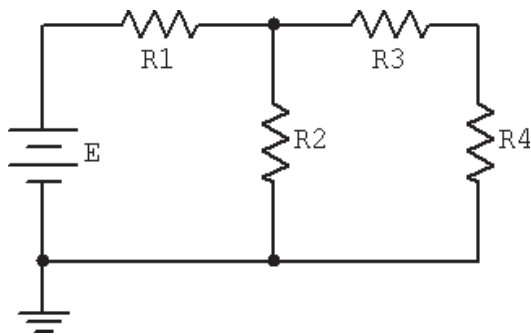
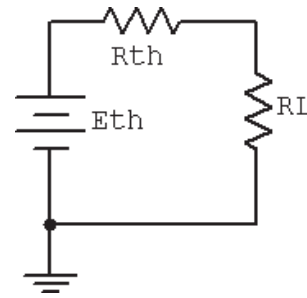

Figure 11.1
Figure 11.2
1. Consider the circuit of Figure 11.1 using  $E = 10$  volts,  $R1 = 3.3$  k,  $R2 = 6.8$  k,  $R3 = 4.7$  k and  $R4$  ( $R_{Load}$ ) = 8.2 k. This circuit may be analyzed using standard series-parallel techniques. Determine the voltage across the load,  $R4$ , and record it in Table 11.1. Repeat the process using 2.2 k for  $R4$ .
2. Build the circuit of Figure 11.1 using the values specified in step one, with  $R_{Load} = 8.2$  k. Measure the load voltage and record it in Table 11.1. Repeat this with a 2.2 k load resistance. Determine and record the deviations. Do not deconstruct the circuit.
3. Determine the theoretical Thévenin voltage of the circuit of Figure 11.1 by finding the open circuit output voltage. That is, replace the load with an open and calculate the voltage produced between the two open terminals. Record this voltage in Table 11.2.
7. In powered circuits, ohmmeters are not effective while power is applied. An alternate method relies on measuring the effect of the load resistance. Return the voltage source to the circuit, replacing the short from step six. For the load, insert either the decade box or the potentiometer. Adjust this device until the load voltage is half of the open circuit voltage measured in step five and record in Table 11.2 under “Method 2”. At this point, the load and the Thévenin resistance form a simple series loop as seen in Figure 11.2. This means that they “see” the same current. If the load exhibits one half of the Thévenin voltage then the other half must be dropped across the Thévenin resistance, in other words  $V_{RL} = V_{RTH}$ . Consequently, the resistances have the same voltage and current, and therefore must have the same resistance according to Ohm's law.
8. Consider the Thévenin equivalent of Figure 11.2 using the theoretical  $E_{TH}$  and  $R_{TH}$  from Table 11.2 along with 8.2 k for the load (RL). Calculate the load voltage and record it in Table 11.3. Repeat the process for a 2.2 k load.
9. Build the circuit of Figure 11.2 using the measured  $E_{TH}$  and  $R_{TH}$  from Table 11.2 along with 8.2 k for the load (RL). Measure the load voltage and record it in Table 11.3. Also determine and record the deviation.
2. Assuming several loads were under consideration, which is faster, analyzing each load with the original circuit of Figure 11.1 or analyzing each load with the Thévenin equivalent of Figure 11.2?